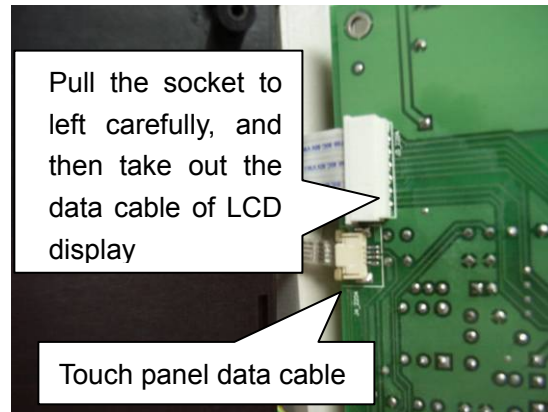

Figure 4-27
2. Remove all wires to the LCD transition board, remove 4 screws fixing the board, turn over the board as shown in Figure 4-27, and carefully remove the data cables of the display and touch screen.